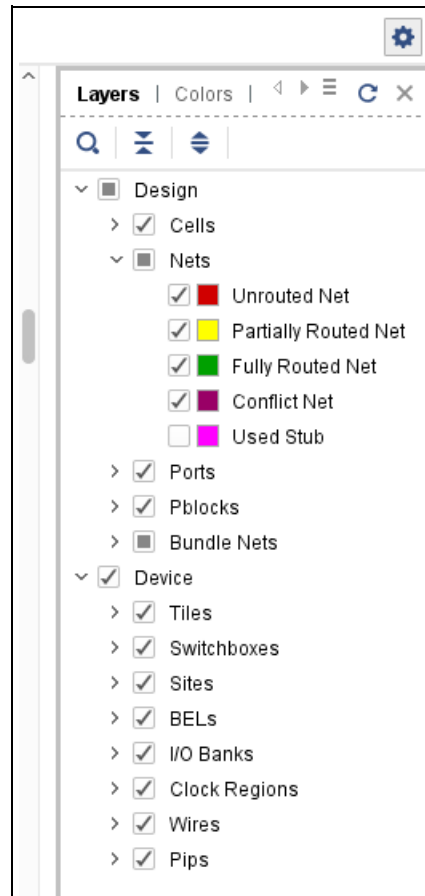

Figure 3-14: Device Options Pull-Out Menu
**Note:** To display partially routed or unrouted nets in the Device View, ensure that those layers are selected in the Device Options menu, shown in Figure 3-14.